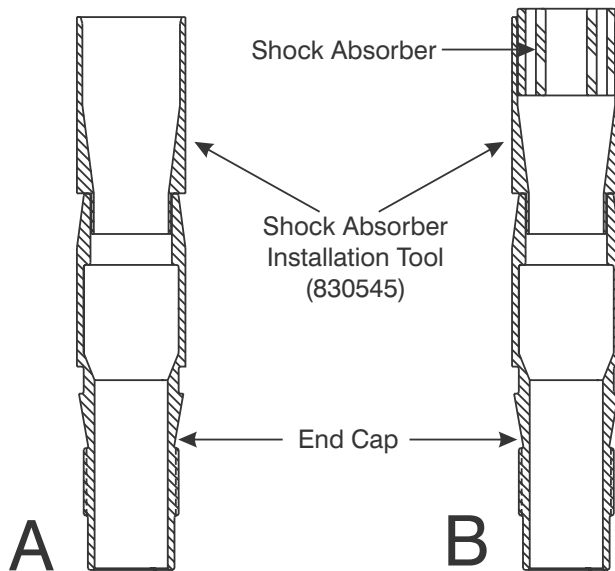

Figure 9-4. End Cap and Tool 837615 in Press
1. Position the End Cap (16) in an arbor press with the threaded end down. Insert the Shock Absorber Installation Tool, 830545, into the End Cap as shown in Figure 9-4-A.
2. Lubricate the OD of the Shock Absorber (15) and The I.D. of the Shock Absorber Installation Tool, 830545. Place the Shock Absorber into tool P/N 830545 as shown in Figure 9-4-B.